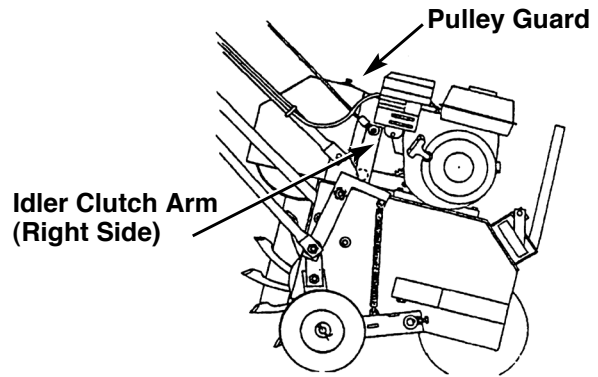

Fig. 2
Qty. 4, one in each wheel assembly and one in each idler/clutch arm pivot bearing. Figure 2
2. Take off pulley guard (see Figure 2) by removing bolts, etc. which attach it to the frame.